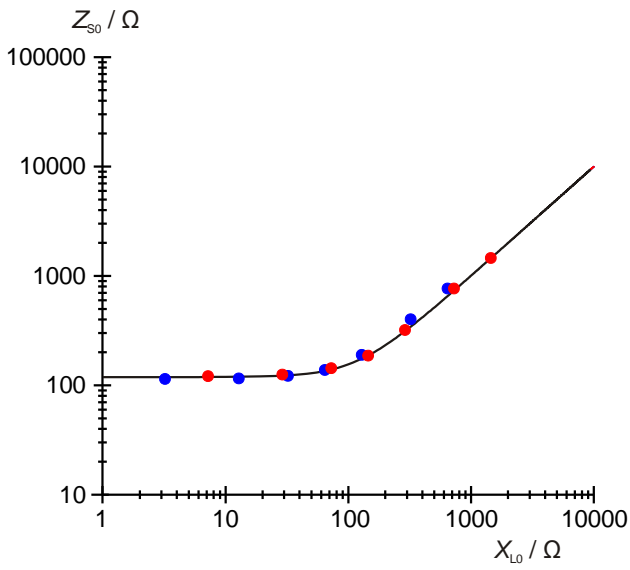

Fig. 4: Total impedance of series circuit for $N=800$ (●) and $N=1200$ (●) turns.
- Plot the total impedance values Z_{0S} and Z_{0P} and phase shifts φ for the series and parallel circuits as a function of X_{L0} (Fig. 4 – 7).
- Calculate the theoretical total impedance values Z_{0S} and Z_{0P} and phase shifts φ according to equation (5) for the series circuit and equation (6) for the parallel circuit.
Draw them as continuous lines into Figs. 4 – 7.